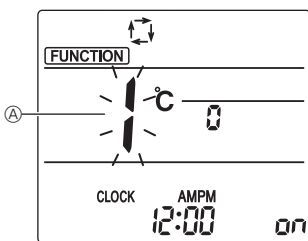

Fig. 6-11
1. Press the ● button ① to stop the air conditioner.
2. Press the MENU button ②. The Function setting screen will be displayed and the function No. Ⓐ will blink. (Fig. 6-11) Press the ⏴ button ④ to change the function No.